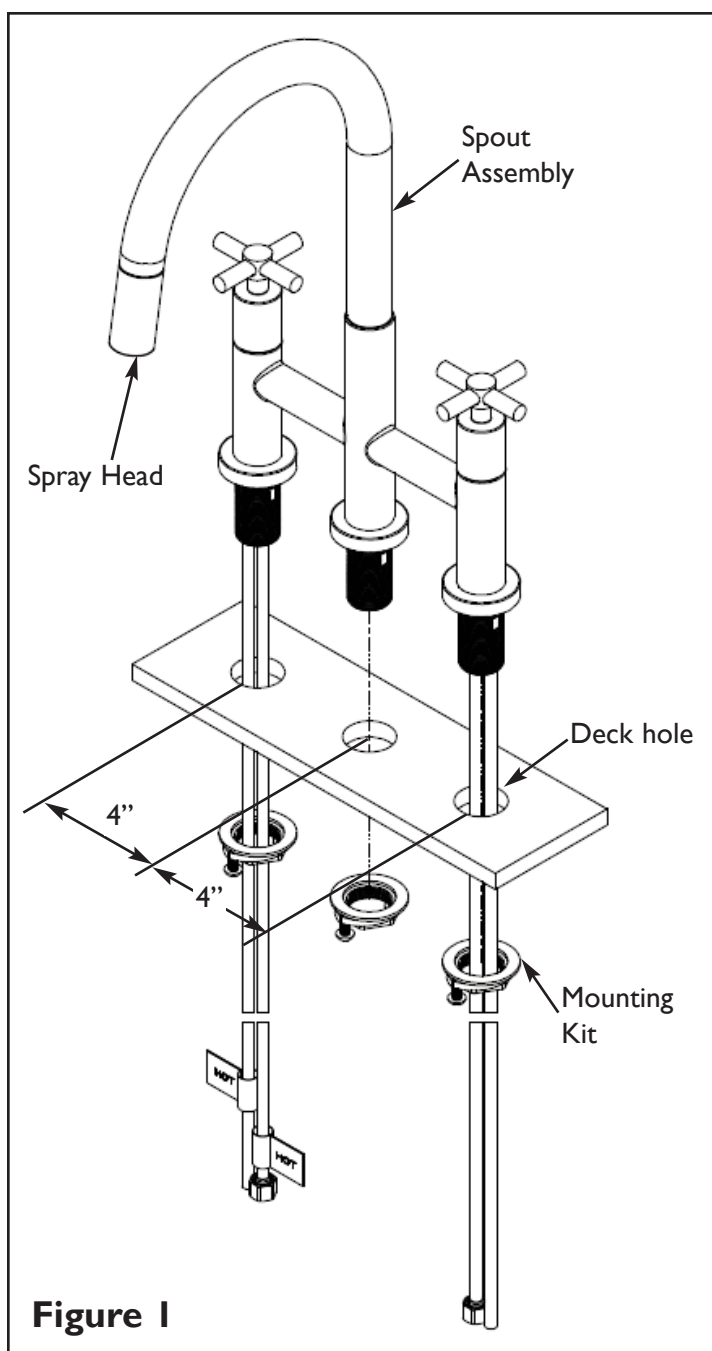

Figure 1
1. Insert the hoses through the side holes and place the SPOUT (1) assembly through holes on deck. Secure SPOUT (1) into place with MOUNTING KIT (2). See **Figure 1**.